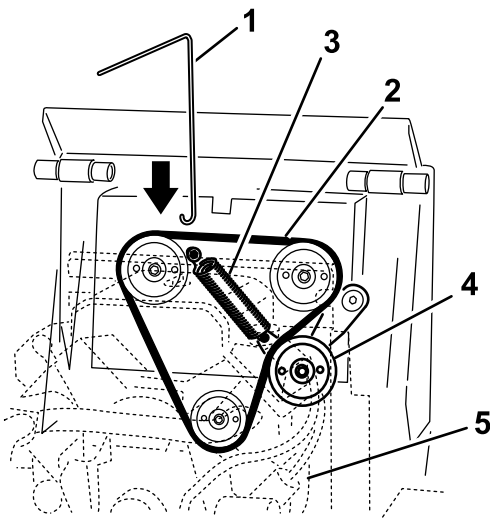

Figure 45
3. Connect the hook on the spring removal tool to the hook on the idler pulley spring, and disconnect the spring from the stud as illustrated in Figure 45.